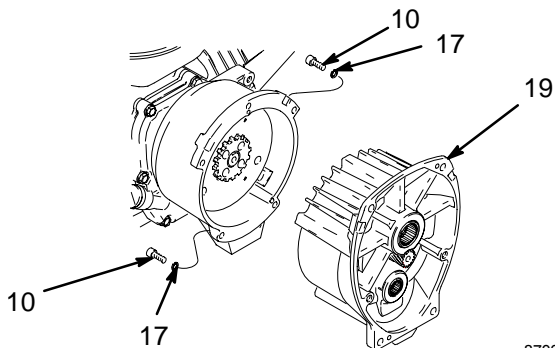
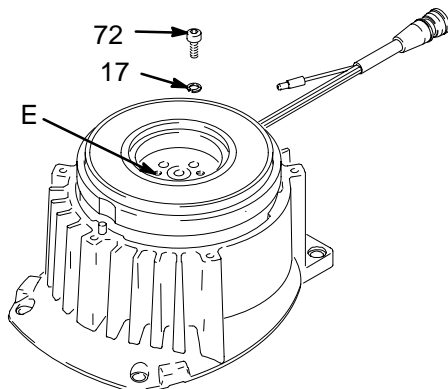
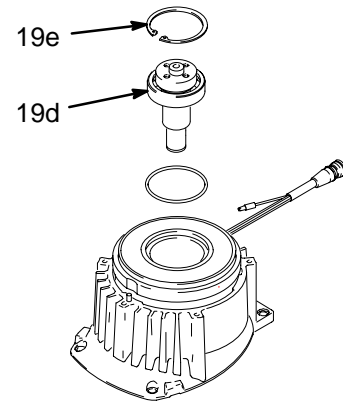

Fig. 6 8700A
Fig. 7 8701A
Fig. 8 8703A
3. Fig. 6. Remove five screws (10) and lockwashers (17) and pinion assembly (19).
4. Fig. 7. Place pinion assembly (19) on bench with rotor side up.
5. Remove four screws (72) and lockwashers (17). Install two screws in threaded holes (E) in rotor. Alternately tighten screws until rotor comes off.
6. Fig. 8. Remove retaining ring (19e).
5. Install four screws (16) and lockwashers (17) with torque of 125 in-lb.
6. Fig. 8. Tap pinion shaft (A) in with plastic mallet.
7. Install retaining ring (Z) with beveled side facing field (Y).
8. Fig. 7. Place pinion assembly on bench with rotor side up.
9. Apply locktite to screws. Install four screws (16) and lockwashers (17). Alternately torque screws to 125 in-lb until rotor is secure. Use threaded holes to hold rotor.
10. Fig. 6. Install pinion assembly (19) with five screws (10) and lockwashers (17).